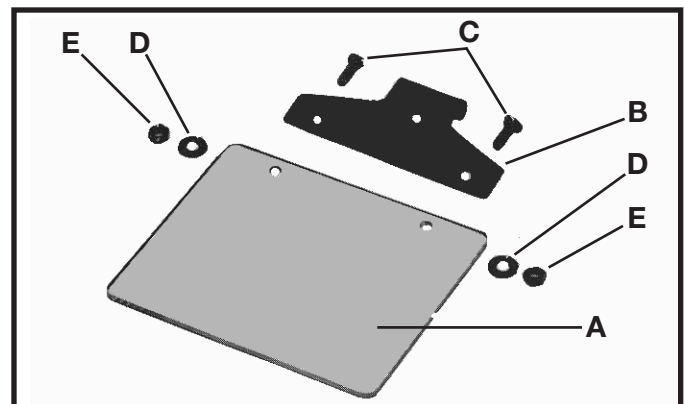

Fig. 4
1. Place shield (A) Fig. 4, under the lip of frame (B). Line up the two holes in the shield with the two holes in the frame and fasten together using two 1/2 inch-long, round head screws (C), washers (D) and nuts (E). Assemble the other shield in the same manner.